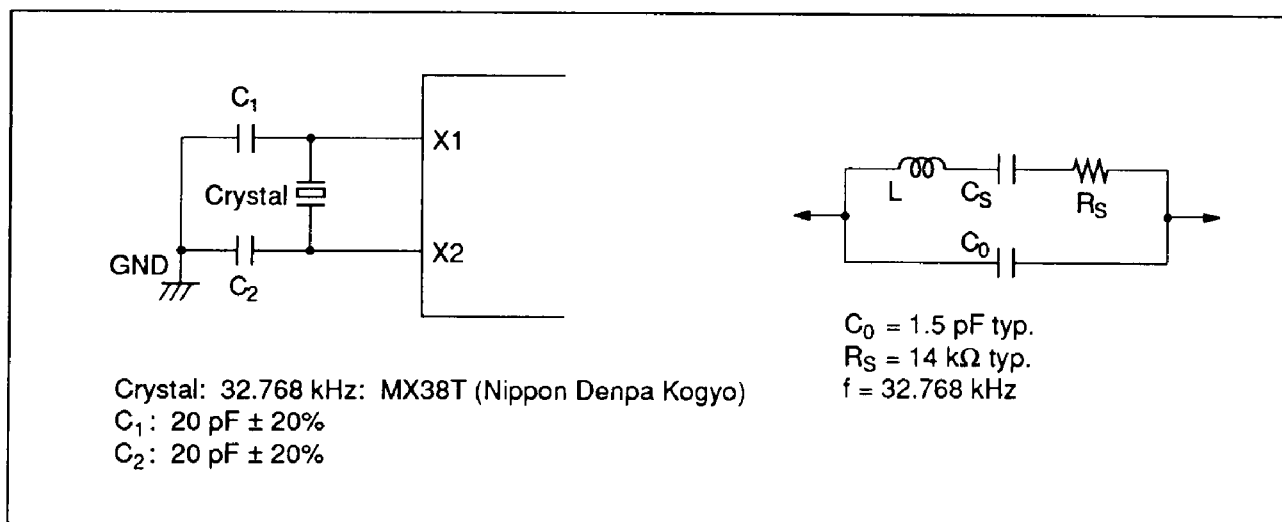

Figure 47 Oscillator Circuits (2)
2. The oscillator stabilization time is the period up until the time the oscillator (see figure 47) stabilizes after V_{CC} reaches 4.0 V at power-on. The time required to stabilize the oscillator (t_{RC}) must be obtained. Since t_{RC} depends on the crystal circuit constant and stray capacitance, consult with the manufacturer.